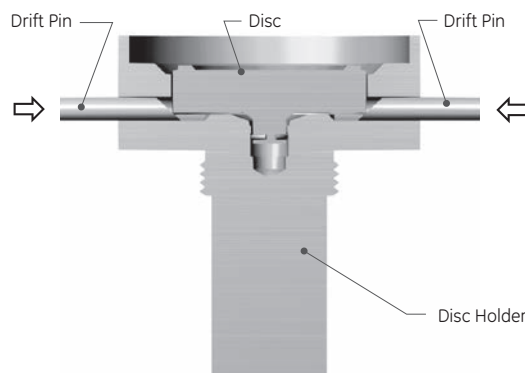

Figure 30: Removing the Disc with Drift Pins
- Using a three- or four-jaw chuck welded vertically to a stand bolted to a concrete floor, clamp the nozzle into the chuck and break the body loose with a heavy rod or pipe (Figure 30).